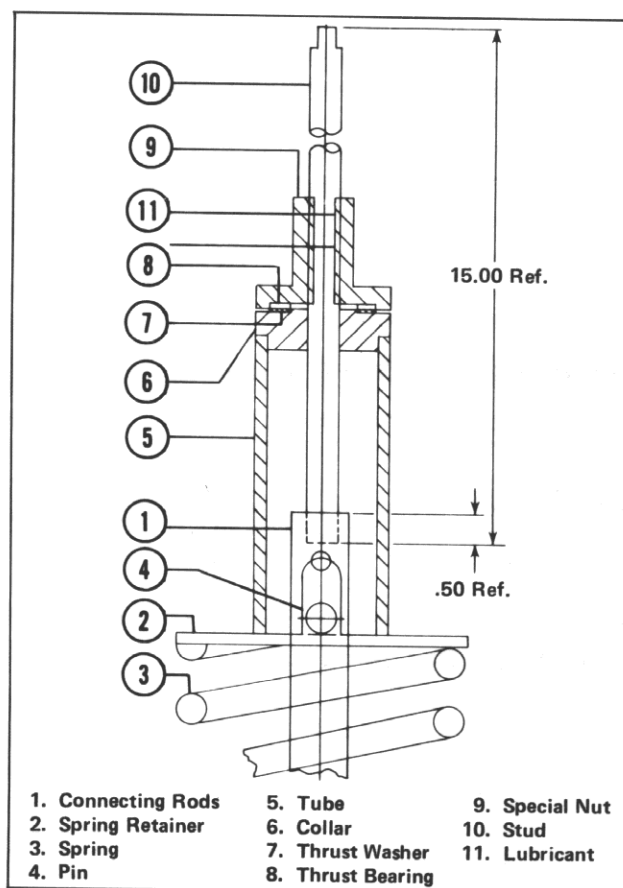

Fig. 39 Closing Spring Removal Tool
3. Assemble nut, thrust bearing, thrust washer, collar and tube on stud. Items 9, 8, 7, 6, 5 and 10 Fig. 39.